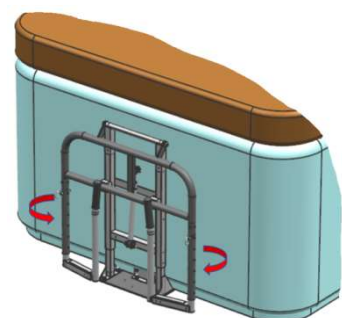

Fig.19
Step 10: When no use, fold the main frame and turn the Left & Right Turnable Arms inwards and lock the Safety Locking Chain.(Fig.19)